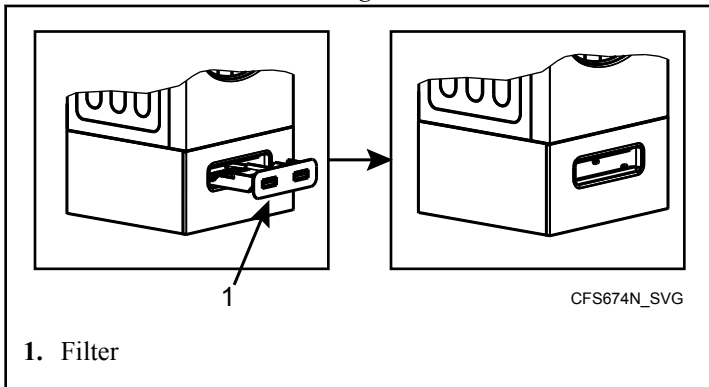

Figure 56
1. Remove the filter. Refer to *Figure 56*.